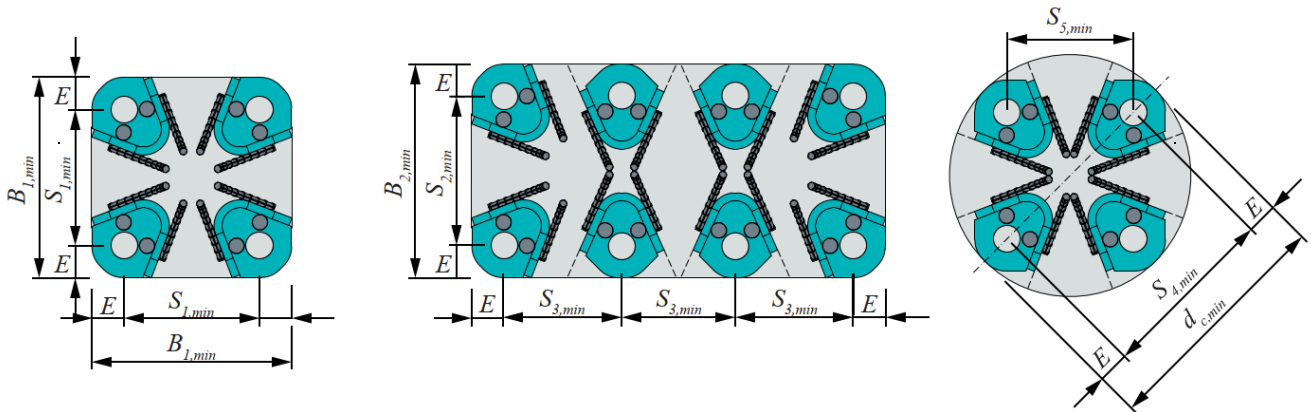

Figure B1. Examples of geometries and minimum spacings of BOLDA® Column Shoes
- Examples of spacings and arrangements of BOLDA® Column Shoes are given in Fig. B1 and Table B1.